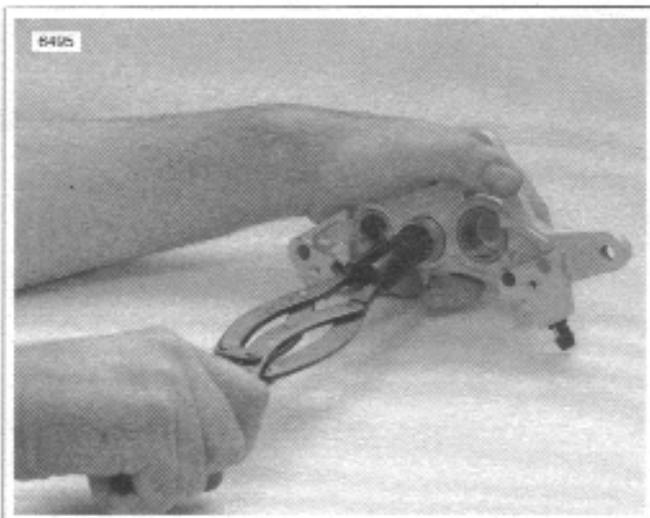

Figure 2-39. Removing Pistons (B-42887)
4. See Figure 2-39. Remove pistons using a BRAKE PISTON REMOVER (Part No. B-42887).